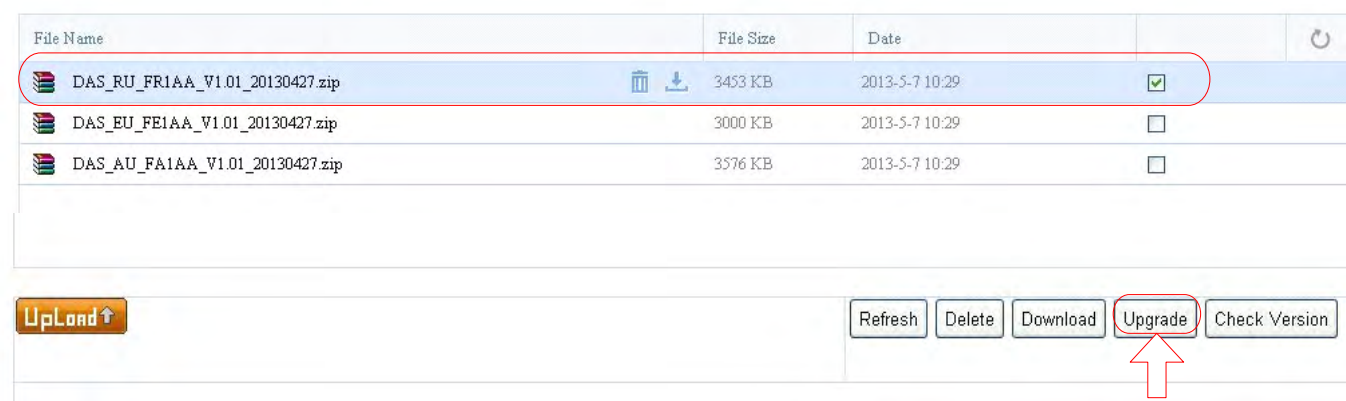

Figure 8- 4 Software Upgrade Step 3
4. When the upgrade has completed, confirm that the software has been updated correctly as shown in Figure 8- 1.